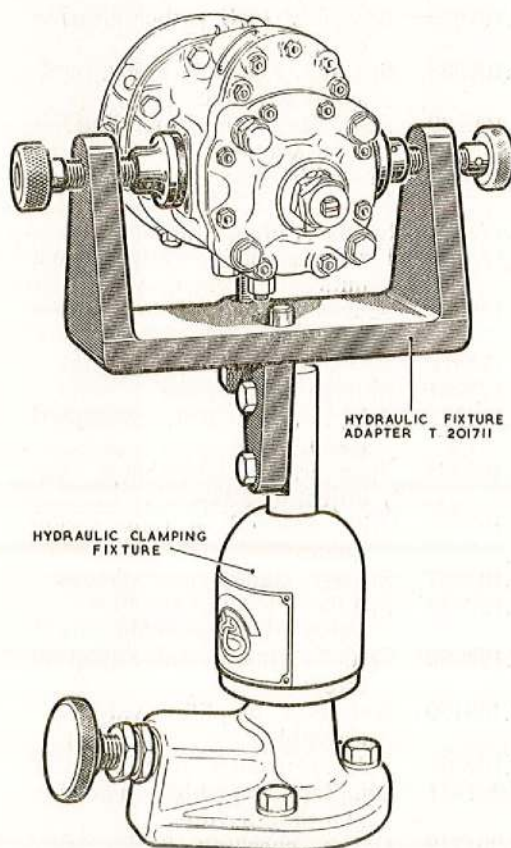

Fig. 3. Dismantling and assembling fixture
16. Mount the pump on the stripping fixture adapter T.201711 as shown in fig. 3. Remove the nuts grover and plain washers and lift off the overspeed control governor assembly. Remove the gasket.
28. Mount the pump in the stripping fixture T.201711 as shown in *fig. 3* and remove the circlip from the rotor shaft by using circlip pliers and also the tool T.203382 for compressing the rotor sealing collar.